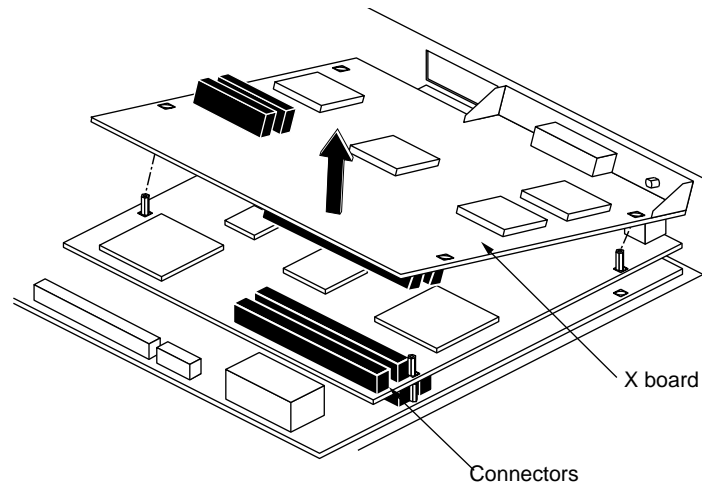

Figure 8-16 Disconnecting the X Board from the Z Board
7. Disconnect the X board from the Z board, by grasping the board firmly on the side close to the system disk drive and pulling up to disconnect the two connectors underneath the board. See Figure 8-16.